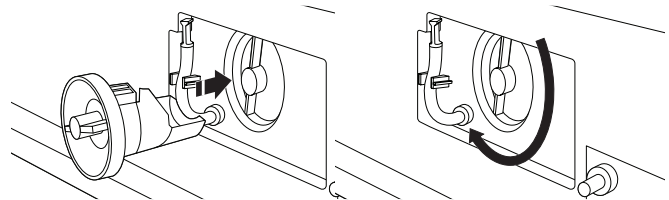

Figure 5
5. Reinsert the drain pump filter by turning it clockwise. Make sure to turn it in as far as it will go, with the filter handle remaining as close as possible to the vertical position. See Figure 5.